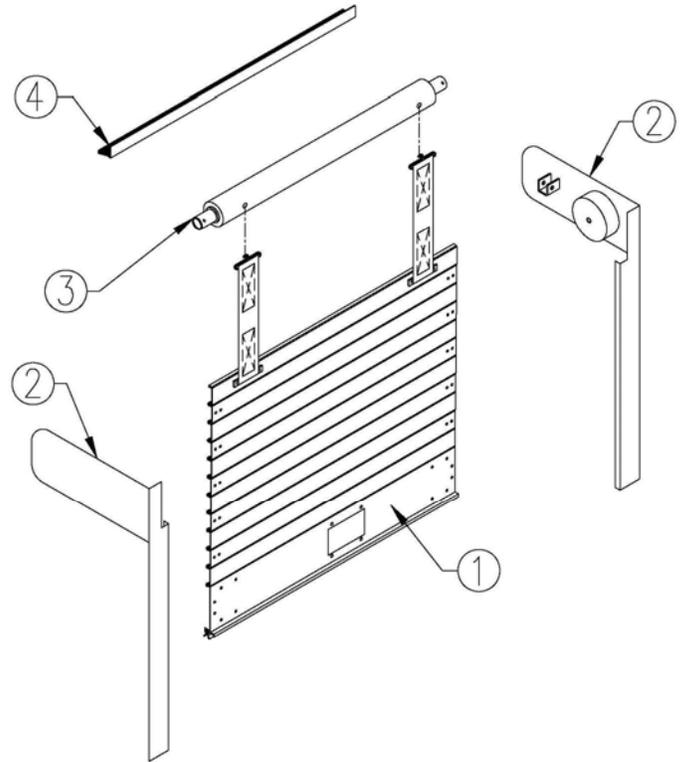

FIG. 1
STEP 1: SHIPMENT INSPECTION: If a standard door was ordered, check the door parts to make sure you have received all needed items. Note any shortages or damages on delivery receipt, as we cannot be responsible for parts lost or damaged in shipment. Fig. 1.